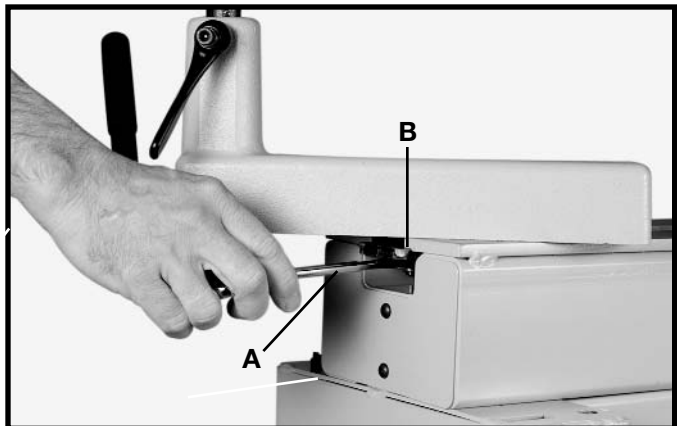

Fig. 17
To adjust the tool rest clamping action, use a $11/16$ " wrench (A) to loosen or tighten the single nut (B) Fig. 17.